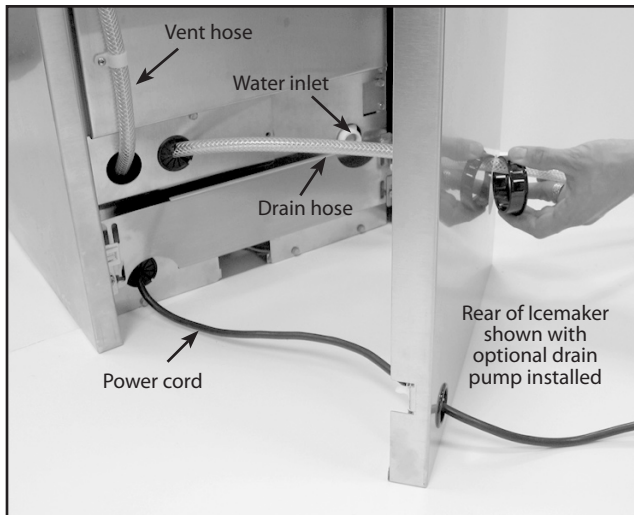

Fig. 12
- The 4 male catch clips are preinstalled in the back panel. See your Icemaker Use & Care Manual for instructions on connecting to your potable water supply and drain. Route the supply hose thru the large opening in the back panel and connect to the inlet on the back of the Icemaker. If you have installed the optional drain pump (sold separately - model # RF15I-P), feed the drain line thru this same large opening. Feed the power cord thru the smaller opening and install protective grommets on both openings (Fig. 12).